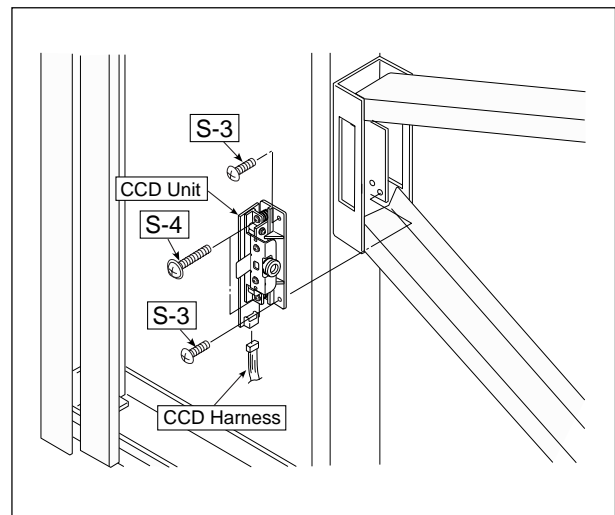

Fig. 5
3) Remove the CCD Unit. (See Fig. 5.)
1. Remove the "S-3" screws shown in Fig. 5.
2. Remove the "S-4" screws shown in Fig. 5 and then remove the CCD Unit.